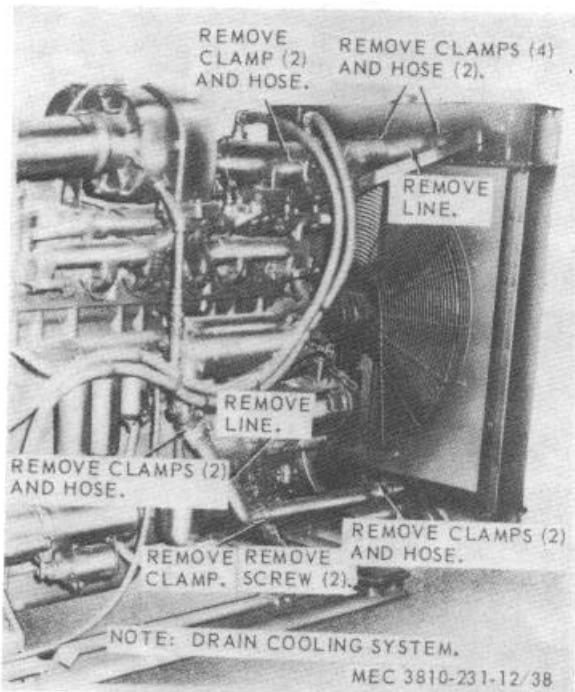

Figure 38. Cooling system hose, lines and fittings, removal and installation.
a. Removal. Remove cooling system hoses, lines and fittings as shown in figure 38.
- (1) Inspect all parts for cracks or breaks.
- (2) Test the thermostat (para 81).
- (3) Clean deposits of rust from inside of all parts.
- (4) Replace all gaskets and damaged or defective parts as necessary.
c. Installation. Install cooling system hoses, lines and fittings as shown in figure 38.